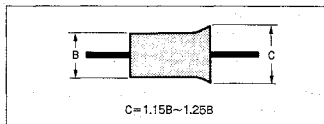

Fig. 7-78.
- 5) Raise the exit side waveform slightly by rotating No.5 guide. (See Fig. 7-78.)